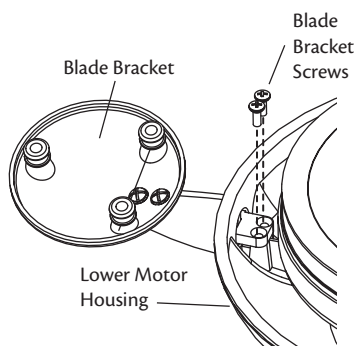

Figure 11 - Installing the blade brackets
- Place the blade bracket through the hole in the side of the lower motor housing. Refer to Figure 11.
- Install the two blade bracket screws as shown in Figure 11.